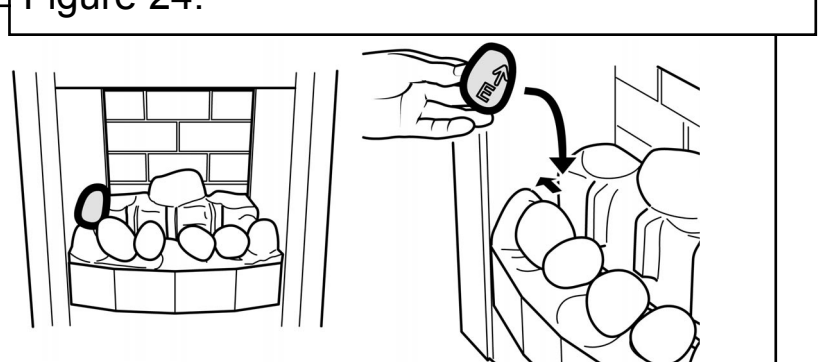

Figure 25.
8. Hold pebble 'E' upright with the arrow pointing to the top. Place pebble 'E' between the front and rear base pebbles. It should rest against the side of the firebox. (See figure 25).